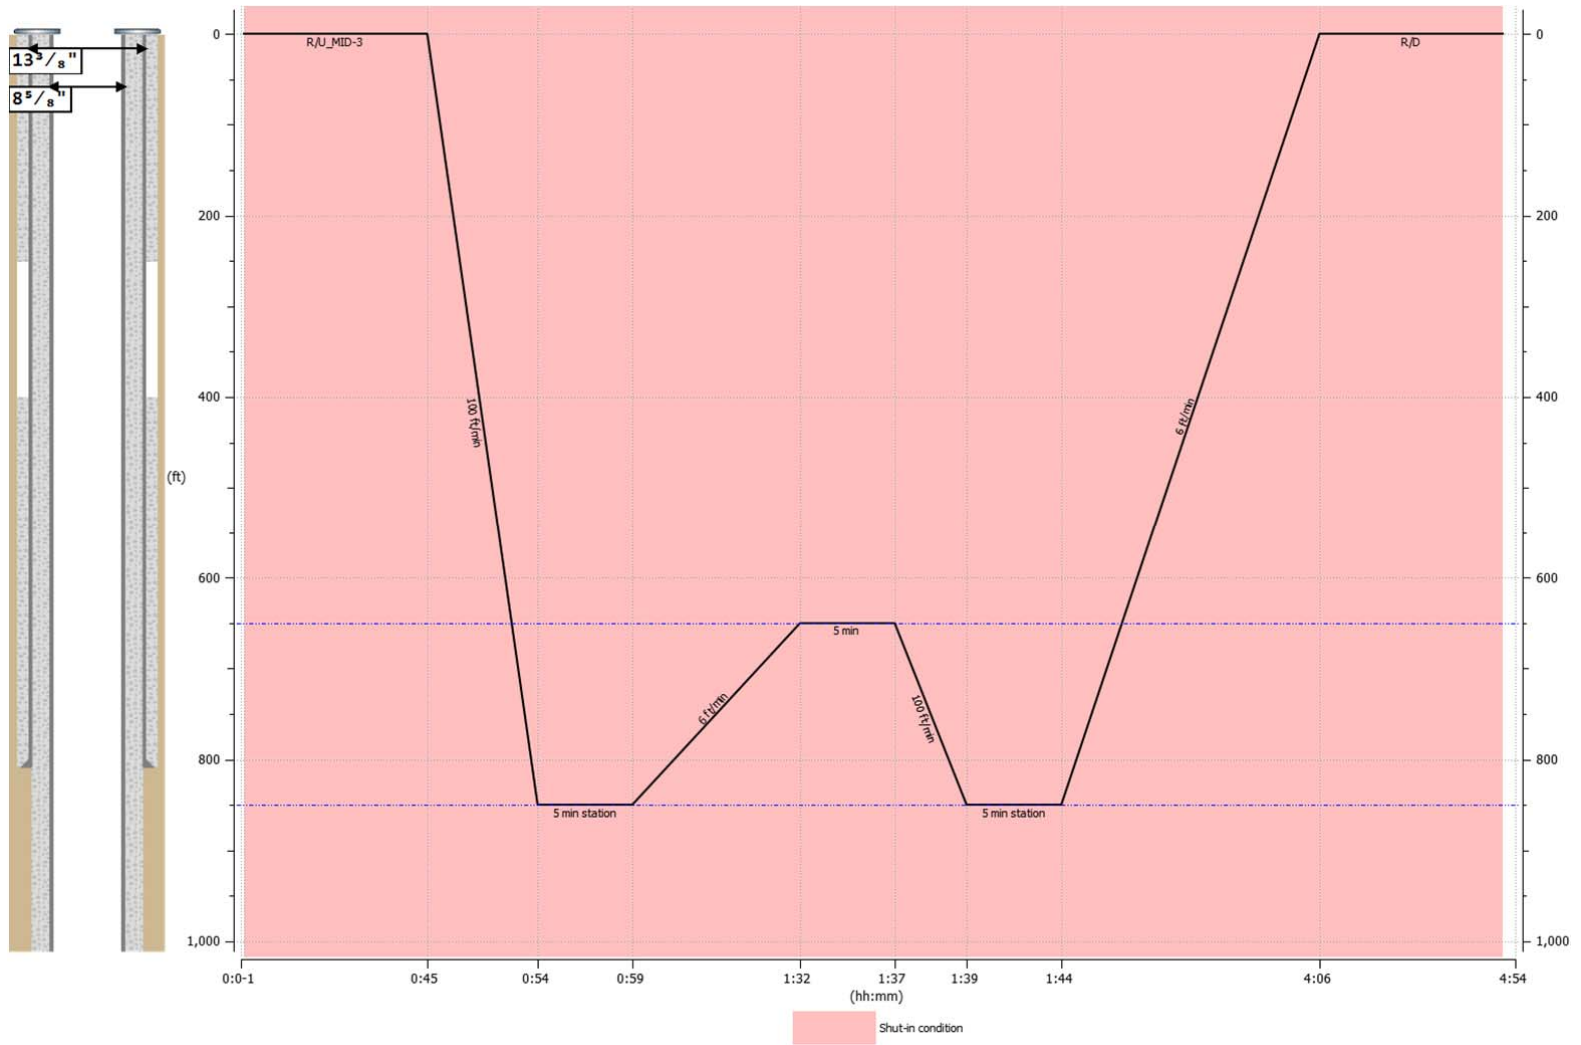

FIGURE 1: LOGGING SURVEY SCHEMATIC
- As per job plan and timing (As per Figure 1 and Table 1), two professional logging personnel will be mobilized to location to perform the job.
- As per the job plan and timing (As per Figure 1 and Table 1), all required logging tools and accessories (As per Table 3) will be shipped to location in advance.
6. Program the logging tools as per instructions and requirements of logging procedures in *Table 1* and *Figure 1* and subsequently rig up logging tool string.
7. Summary of tool runs are as follows (Details are in Table 1 & Figure 1).
9. Carry out MID logging survey as per *Table 1 and Figure 1*.